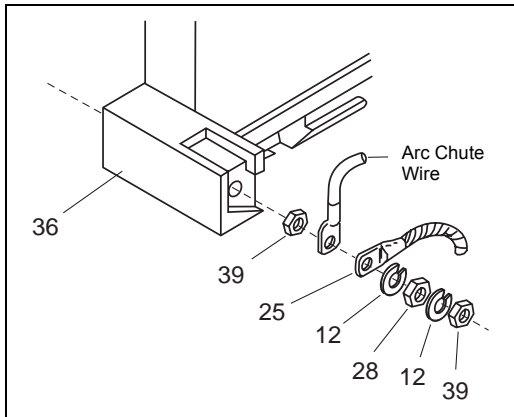

Figure 6: Assembling the Arc Chute Wire and Shunt
3. Remove the silicon bronze hex-head cap screw (15), lock washer (16), and stationary contact tip (14A).
4. Remove the bottom end of the shunt (25), lock washers (12), nuts (28 and 39), and arc chute wire.
5. Remove the pan-head screw (5), washer, lock washer, nut (7–9), and arc chute (1).
7. Reconnect the arc chute wire and the bottom end of the shunt to the contactor base, using the lock washers and nuts (Figure 6).
2. Disconnect the bottom end of the shunt (25) by removing the lock washers (12) and hex nuts (28 and 39).
3. Disconnect the top end of the shunt by removing the pan-head screw with captive lock washer (22) and washer (24).
5. Reconnect the arc chute wire and the bottom end of the shunt to the contactor base, using the lock washers and nuts (Figure 6).